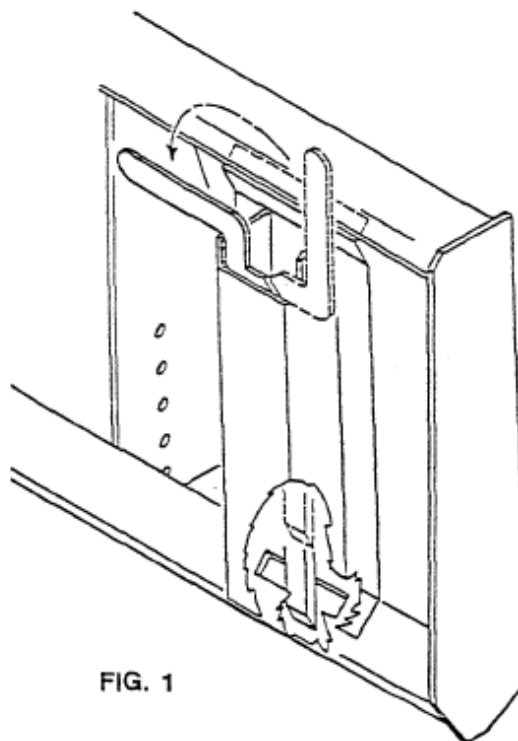

FIG. 1
- (1) Attach the mount to the loader universal mount. Lock the mount onto the universal mount with the locking handles. Make sure the locking wedges are locked into the mount. SEE FIG. 1.